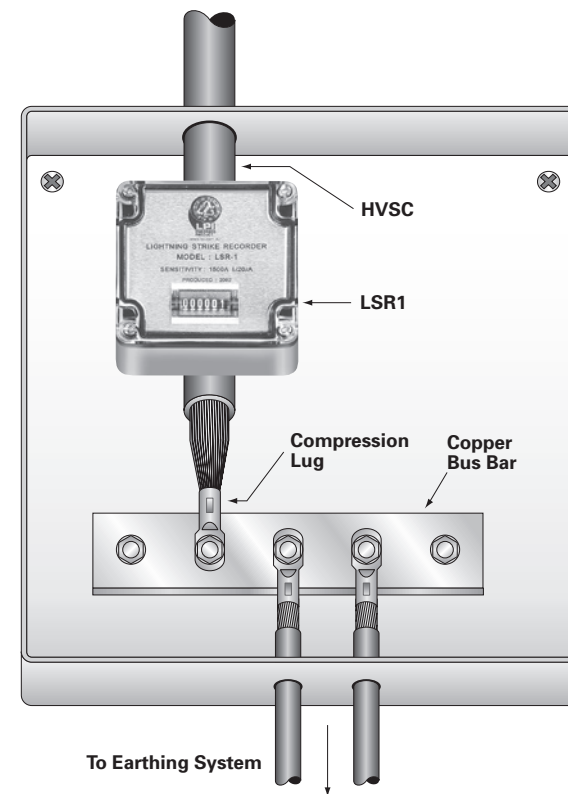

Figure 5.
6. If terminating the lower end of the HVSC to a bus bar then bunch together both inner and outer screen conductors, crimp them together in the crimp lug provided using a compression or mechanical crimping tool and connect the bus bar as per Figure 5.